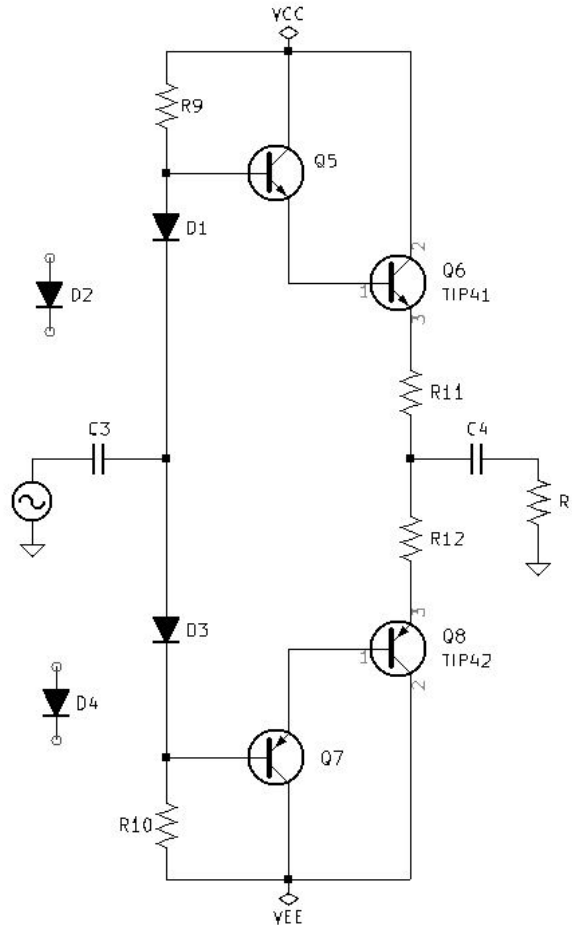

Figure 5.2: Push Pull Amplifier Cross-Over Distortion Test Circuit.
- (b) Build your calculated Push-Pull Amplifier with D2 and D4 removed from the circuit. Also, replace RL with a $10K\Omega$ resistor. See Figure 5.2 *Push Pull Amplifier Cross-Over Distortion Test Circuit.* on page 42.